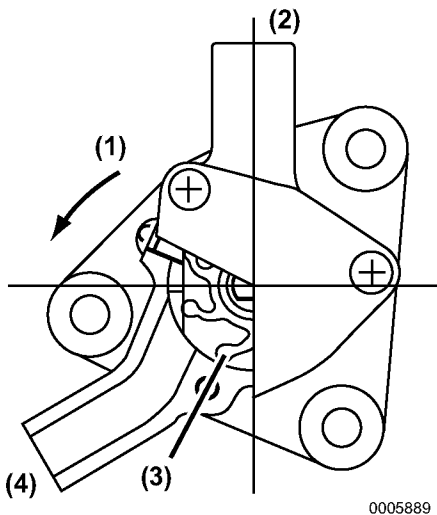

Figure 6
During normal operation, the pump impeller rotates in a counterclockwise direction (**Figure 6, (1)**). Use caution when installing the impeller to ensure that all the blades of the impeller are set in the proper direction. When turning the engine over manually, do not reverse the normal direction of engine rotation or the blades of the seawater pump impeller (**Figure 6, (3)**) may be damaged.